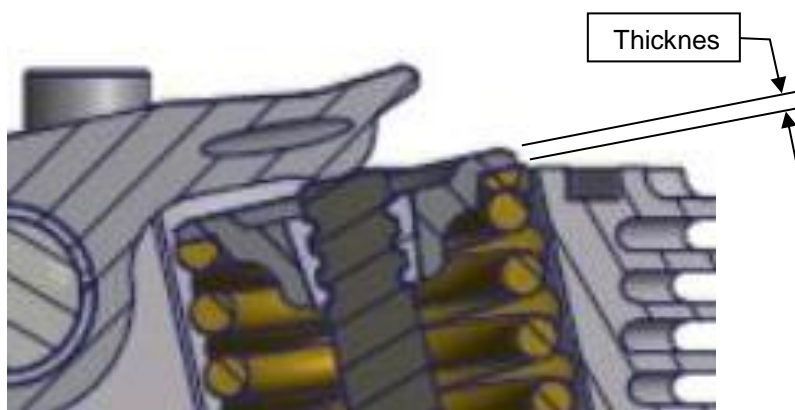

Figure 40 – Washer Thickness Measurement
3. Measure the thickness of the upper valve spring washer as shown in Figure 40 using depth gauge Vernier calipers. Any measurement below 1.3mm must be investigated and worn parts replaced; failure typically occurs at around 1.0mm.